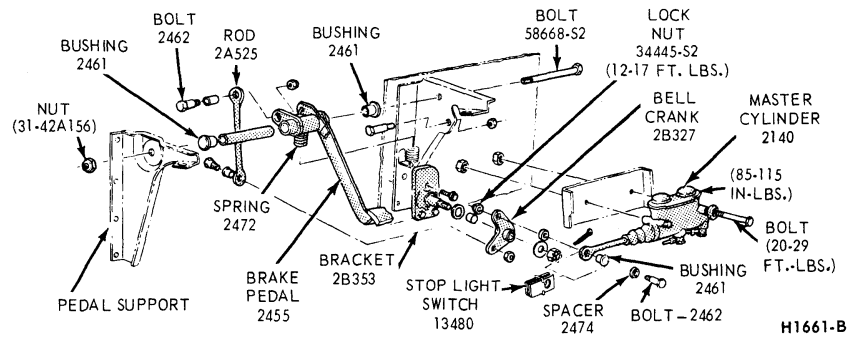

FIG. 9 Dual Master Cylinder and Brake Pedal Installation — C-Series
Refer to Figure 9.
- Remove the brake pedal retracting spring (Figs. 9 and 11).